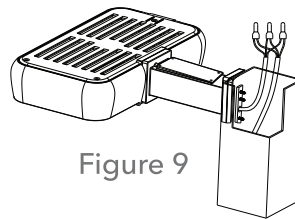

Figure 9
3. Open the pole cap, fix the direct bracket on the pole and tighten the screws firmly, connect the wire of fixture to main power supply according to local electric connection code (figure 9), make sure good protection on the wire connection.